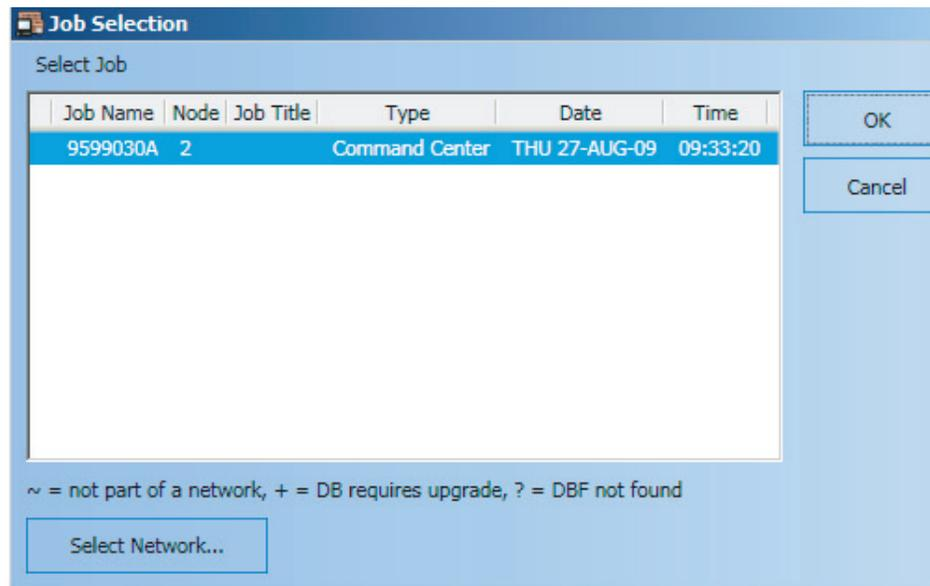

Figure 3-3 Job Selection Dialog
3. From the **Job Selection** dialog box (Figure 3-3), click on the **Select Network** button at the bottom left corner.